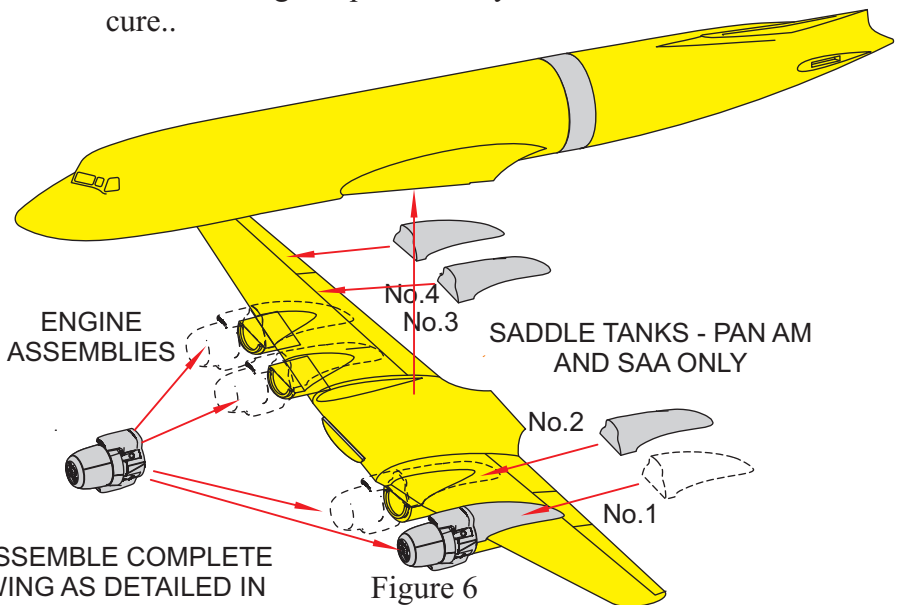

Figure 6
- 5 Attach the wings, engines and saddle tanks as shown in Figure 6.